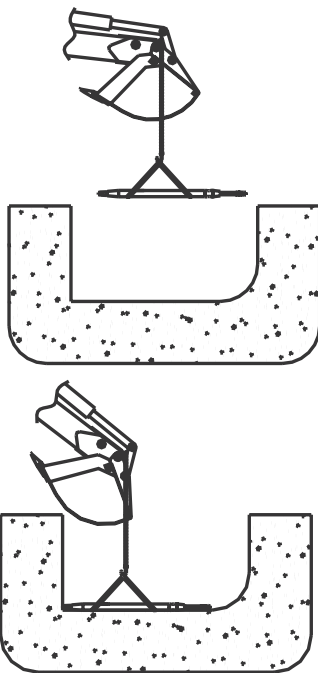

Figure 6-1. Lifting the Hole-Hog
- Any unit over 88 pounds (40kg) cannot be lifted manually. Use slings on either end of the Hole-Hog as shown in Figure 6-1 to lift the Hole-Hog in and out of the
- Lower the Hole-Hog into the entrance trench with slings, as shown in Figure 6-1., with the piercing tip just touching the wall to be pierced.
Any unit over 88 pounds (40kg) shall not be lifted manually. Use slings on either end of the Hole-Hog as shown in Figure 6-1. to lift the Hole-Hog out of the trench.